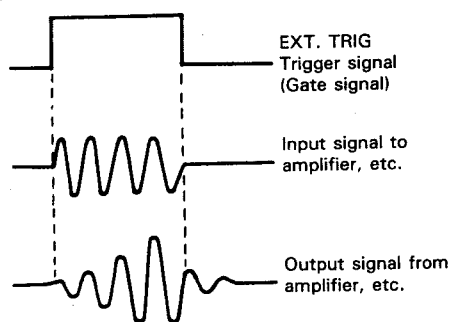

Fig. 8
When the SOURCE selection is in EXT, the input signal at the EXT TRIG INPUT (14) jack becomes the trigger. This signal must have a time or frequency relationship to the signal being observed to synchronize the display. External sync is preferred for waveform observation in many applications. For example, Fig. 8 shows that the sweep circuit is driven by the gate signal when the gate signal in the burst signal is applied to the EXT. TRIG INPUT jack.